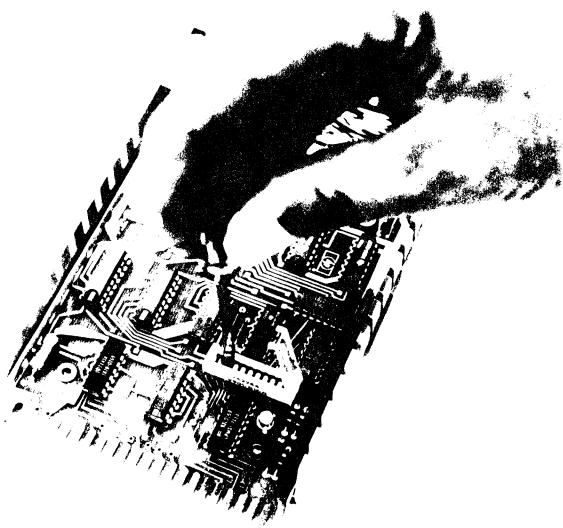

FIGURE 1. SETTING THE SELECT CODE
3. Locate the Select Code Switch (see Figure 1). Raise the hinged cover on the switch. Using a small, flat-blade screwdriver, carefully rotate the selector-tab until it is positioned at the desired select code number (numbers are printed on the side and on the top cover of the switch). Before closing the cover, be sure the slot in the selector-tab is positioned at a right angle with respect to the length of the switch.